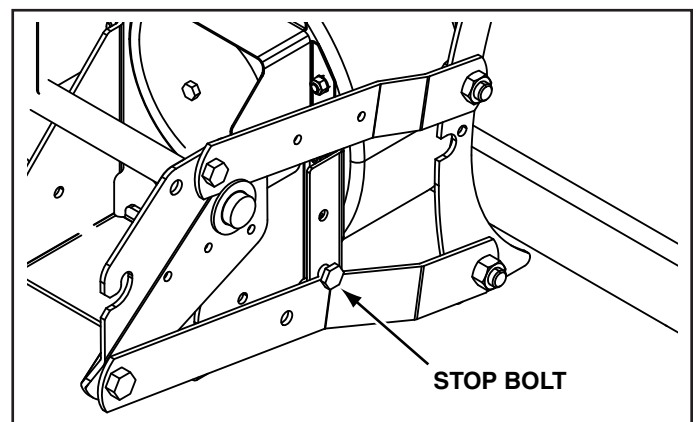

FIGURE 53
**STEP 54: (SEE FIGURE 53)**
- If you have a (GT) Garden Tractor, remove the stop bolts from each side of the snow thrower frame.